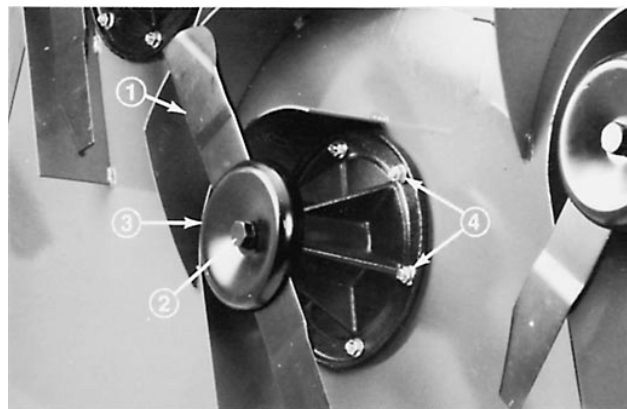

Figure 59
- Using a rag or thickly padded glove, grasp end of blade. Remove blade bolt, lockwasher, anti-scalp cup and blade from spindle assembly (Fig. 59).